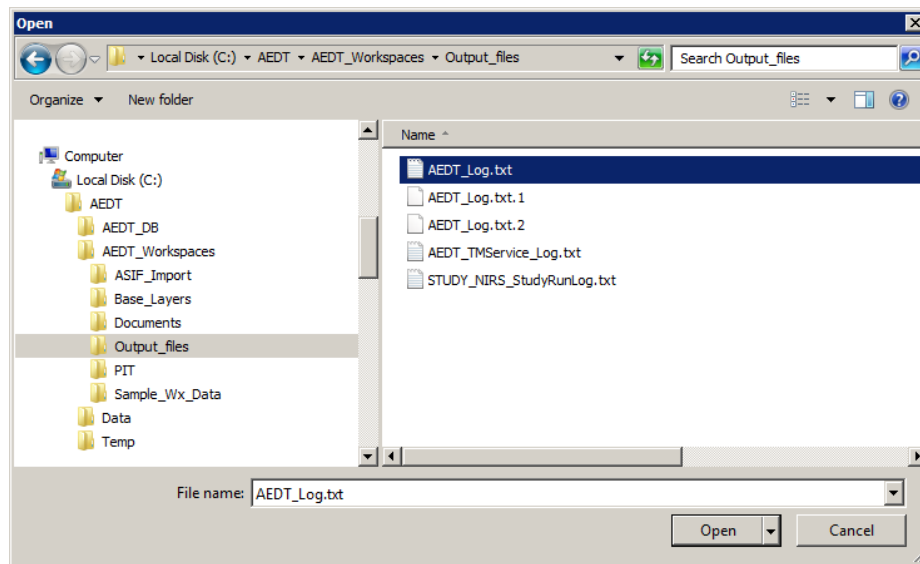

Figure 6-8 AEDT Log Files
5. Select the error file of interest and click the *Open* button (Figure 6-8).
AEDT 2a divides the log files into 100 MB partitions in ascending numerical order. Errors occurring toward the end of the processing cycle will be located in the file without a number, named *AEDT_Log.txt*; while errors occurring toward the start of the processing cycle will be located in the greatest numbered file, such as *AEDT_Log.txt.10* in the sample log files shown in Figure 6-8. The number of log files is limited to 10.